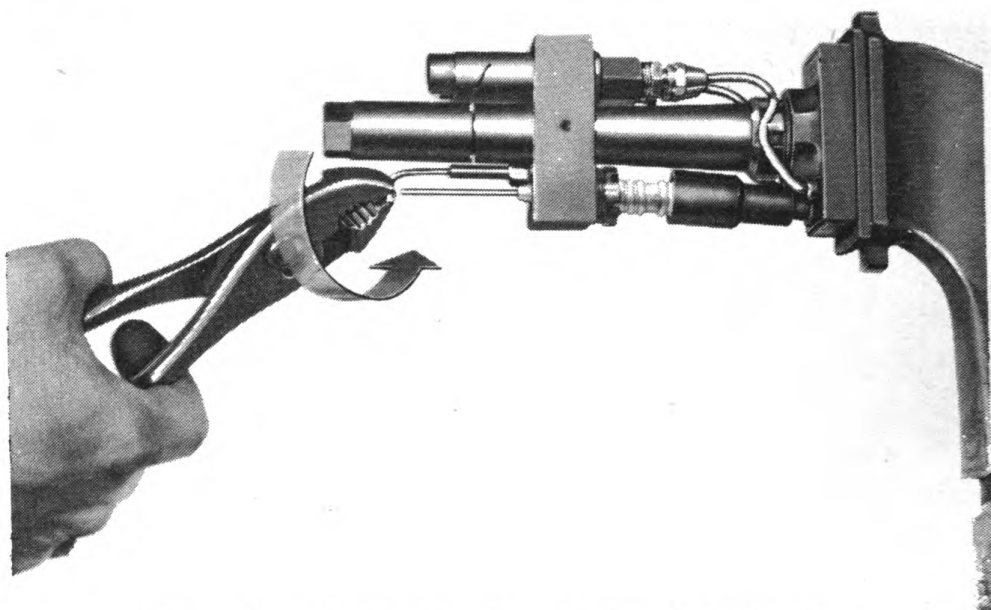

Fig. 76. Adjusting location of ground electrode.
- (2) Ground electrode. To install, reverse procedure of b(2) above.
- (3) Adjustment of electrode. The tip of the electrode must be directly under the end of the spark plug or an improper gap results. If the electrode tip is not under the spark plug tip, rotate the electrode with a pair of pliers (fig. 76), until it is in desired position. The gap